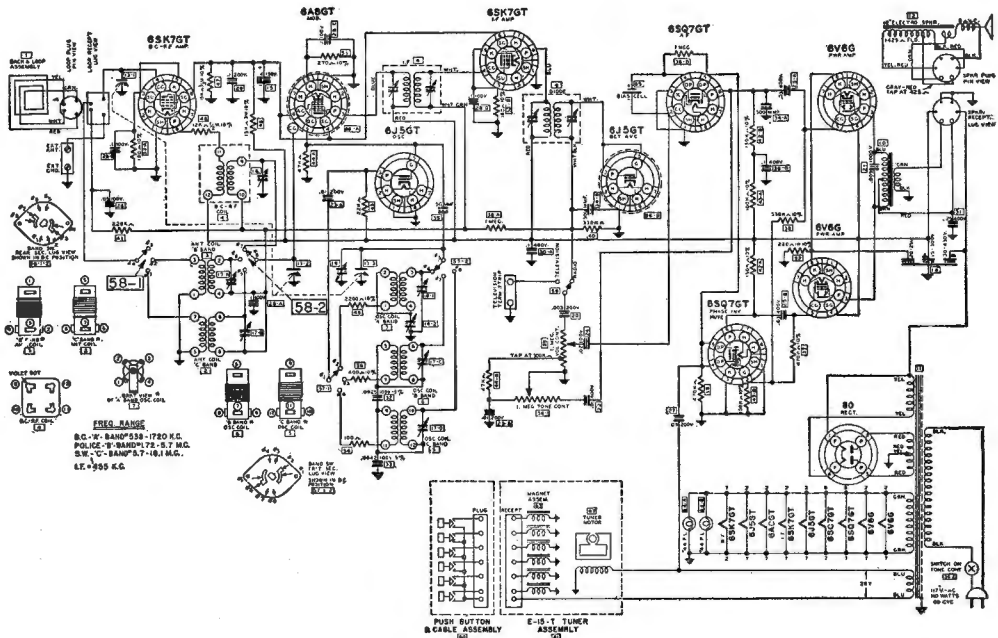

FIG. 16-9.—Schematic diagram of the Motorola 103K1 receiver.
on more than one band. The Motorola 103K1 receiver of Fig. 16-9 illustrates both of these points.
7. The receiver of Fig. 16-9 is inoperative. Signal check shows that the trouble is in the RF stage. A voltage check of the RF stage gives the following results:
9. The receiver of Fig. 16-9 has poor tone quality on local stations. Removing the RF tube and connecting the antenna to the plate terminal of the RF tube clear up the tone. What in the RF stage can cause this trouble? How would the serviceman confirm the cause?